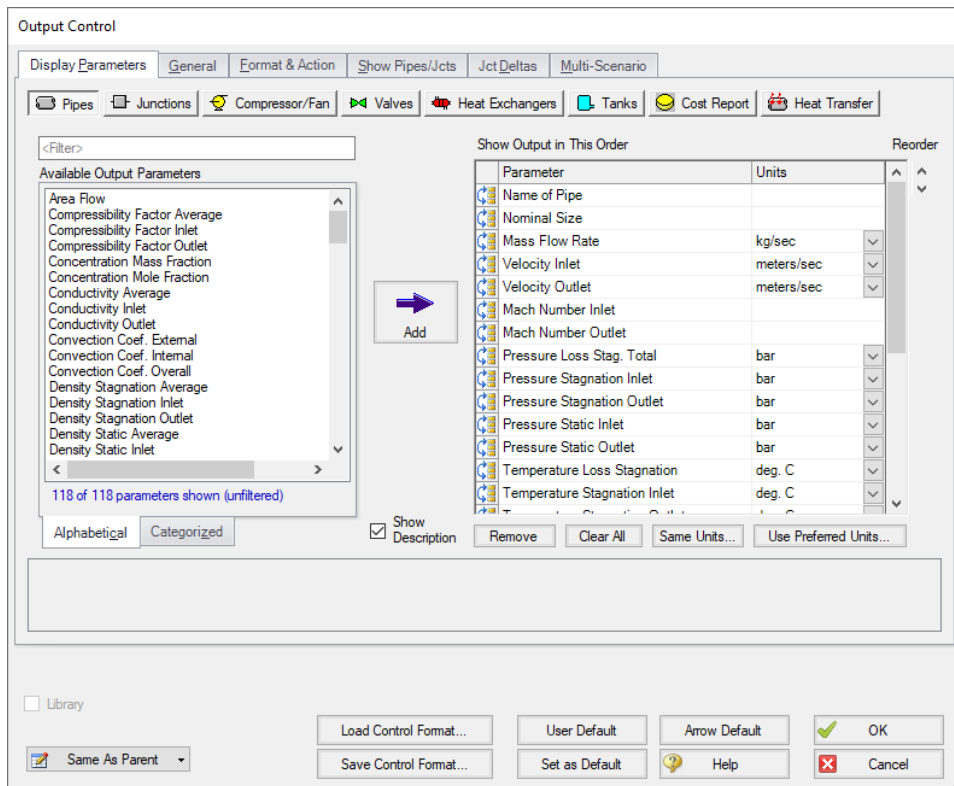

Figure 3: Output Control window
4. Use the Reorder buttons (in the upper right) to move the Nominal Size up so that it becomes the second parameter in the list (see Figure 3).